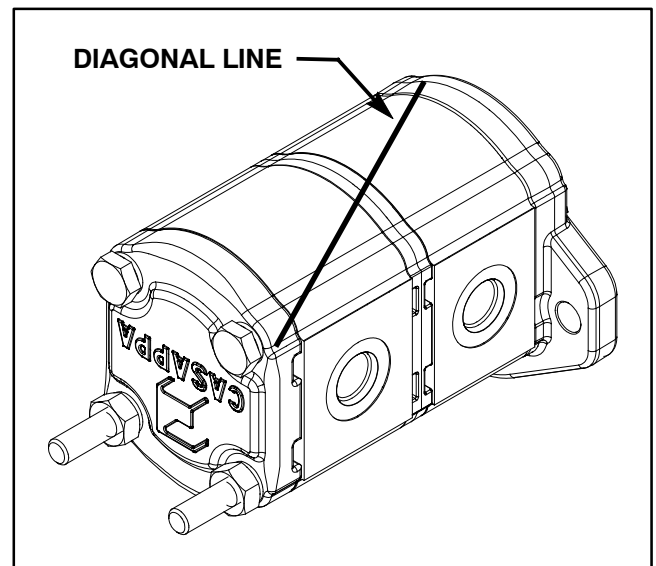

Figure 61
2. Use a marker to make a **diagonal** line across the gear pump for assembly purposes (Fig. 61).